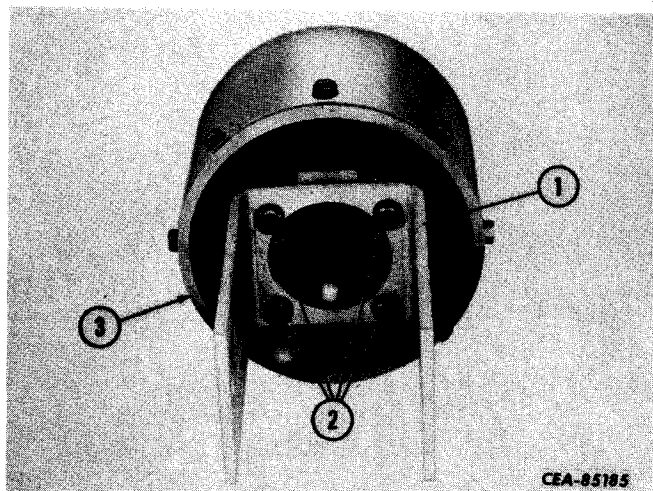

Figure 13-31
Lightly oil seat (2, Fig. 13-31) prior to assembly. Insert seat in body (1). Place new gasket (3) on cap (4) and install in body (1). Install plug (5) in body.
Remove cap screws and lock washers (2, Fig. 13-31) that secure bracket (1) to air cylinder (3). Remove bracket.